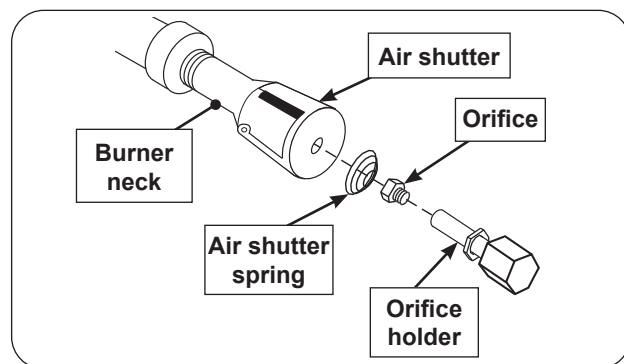

Fig. 40-3 Burner replacement diagram
2. Squeeze the collimator to detach the rear tab from the rear liner as shown in Fig. 40-3, A, and lift up the rear portion of the collimator.
3. Detach the collimator from the front collimator support and completely remove the collimator as shown in Fig. 40-3, B.
4. To re-install, position the air shutter spring and air shutter over the orifice holder fitting, between the burner and the heat shield, in the order and position shown in Fig. 40-3. Do for both burner necks.